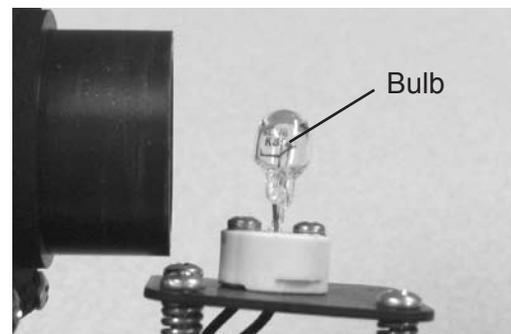

Figure MM-10 Bulb
5. To replace, grasp the glass envelope with a thick cloth and insert the pins straight into the socket and gently push down until fully seated. Refer to Figure MM-10.